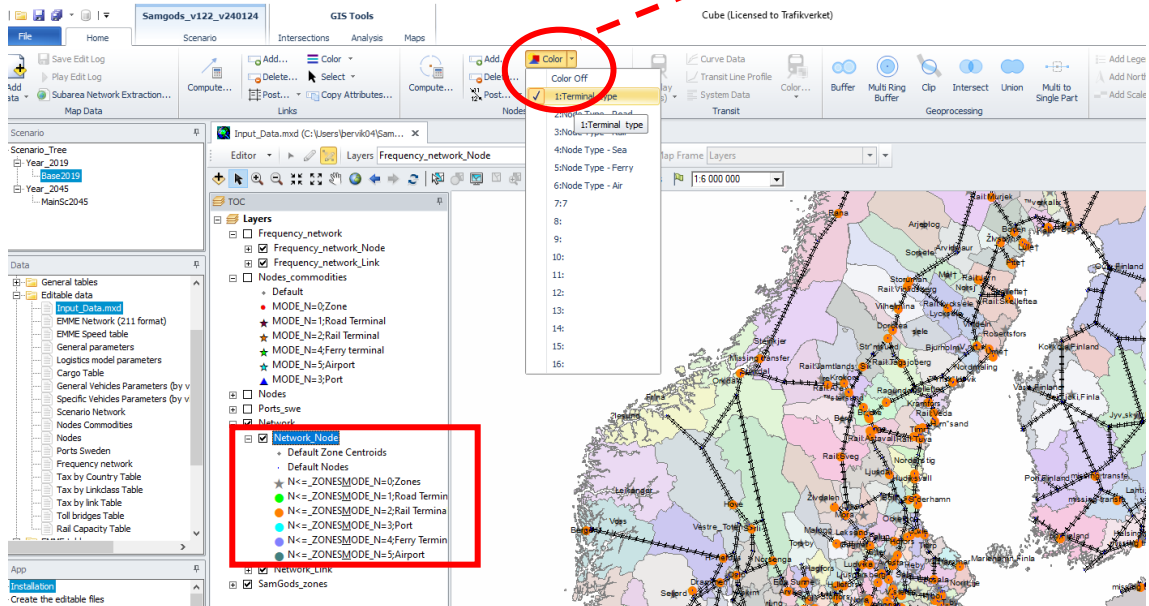
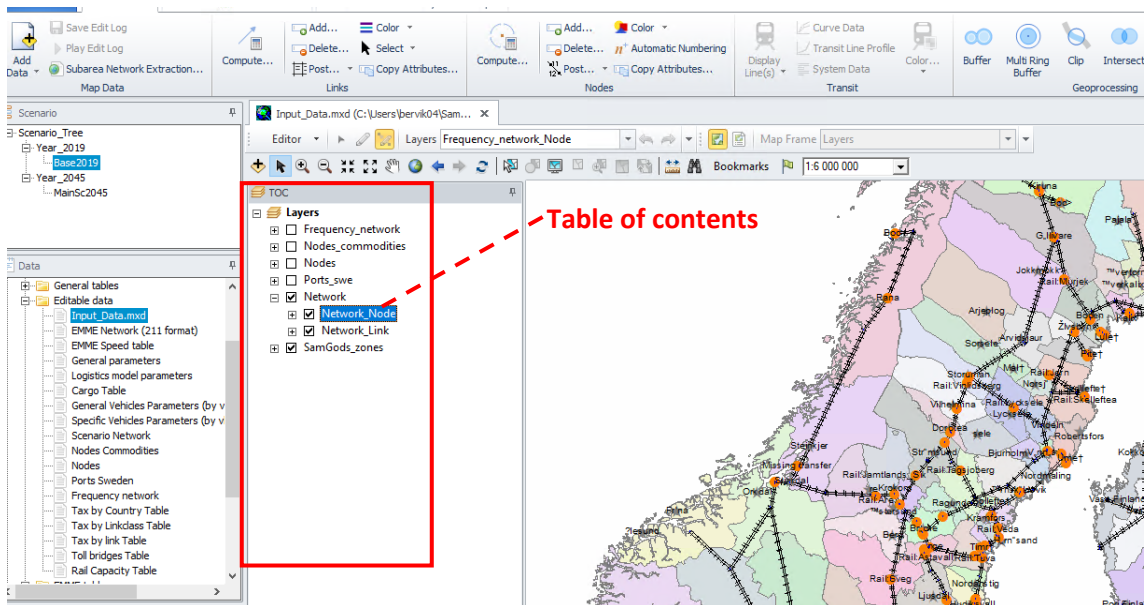

Figure 53 Enable the layer and select the set of legends as in the figure. Example of default legends, for the Network_Node layer
Figure 54 Table of contents (TOC)
- a. Network_Node: Terminal type (shown in Figure 53)
The best way of using these filters is in conjunction with the default legends: First activate the desired filter(s) for the layer(s) you want to work with and then enable and/or edit the corresponding set(s) of default legends using the icons shown in Figure 53. The layers ticked in the TOC in Figure 54 are the ones that are visualized in the GIS window. A layer is selected by clicking on it in the TOC. By selecting “Datasets -> Set Selectable Layers” it is possible to set which layers that allow selecting elements. E.g., if the Samgods_zones layer is selected in the TOC but not set as selectable, the zones are shown in the GIS map but cannot be selected with the Select features tool (see below). The default is that all layers are selectable. When editing the GIS data, the layer containing the data that is edited must be selected in the “Layers” drop down menu in the Editor toolbar (see below).